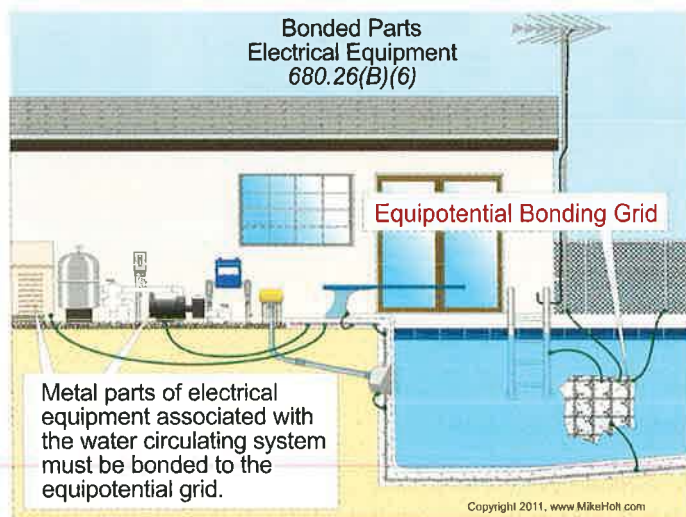

Figure 680-34
(3) Metallic Components. Metallic parts of the pool structure must be bonded to the equipotential grid.
(4) Underwater Metal Forming Shells. Metal forming shells and mounting brackets for luminaires and speakers must be bonded to the equipotential grid.
(5) Metal Fittings. Metal fittings 4 in. and larger located within or attached to the pool structure, such as ladders and handrails must be bonded to the equipotential grid.
(6) Electrical Equipment. Metal parts of electrical equipment associated with the pool water circulating system, such as water heaters and pump motors and metal parts of pool covers must be bonded to the equipotential grid. **Figure 680-34**